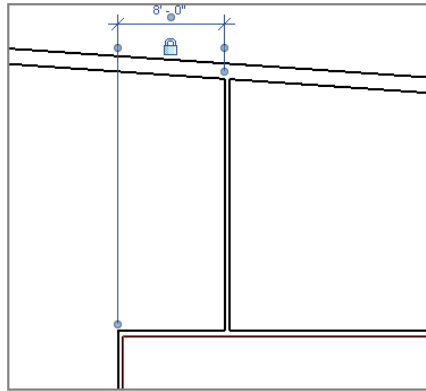

FIGURE 1.29 A temporary dimension has been converted and locked.
3. Click the dimension icon just below the length shown in the temporary dimension to convert it into a regular dimension string. Select the dimension string and click the lock symbol to establish a constraint, as shown in Figure 1.29.